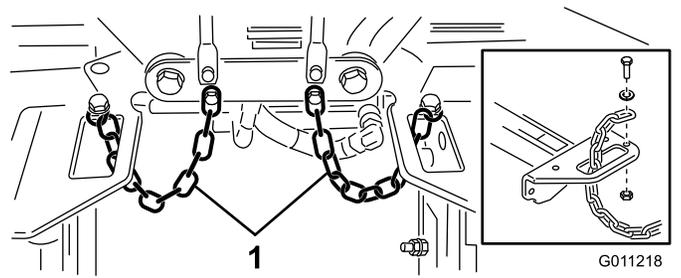

Figure 23
4. Route a tipper chain up through the slot on the end of each carrier frame. Secure the tipper chain to the top of the carrier frame with a bolt, a washer, and a locknut (Figure 23).